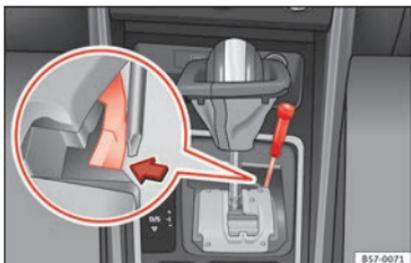

Fig. 54 Selector lever: manual release from position P.
- Using a screwdriver, press and hold the yellow unlocking tab sideways » » » Fig. 54.
- Now press the interlock button on the selector lever (A) and move the selector lever to position N.